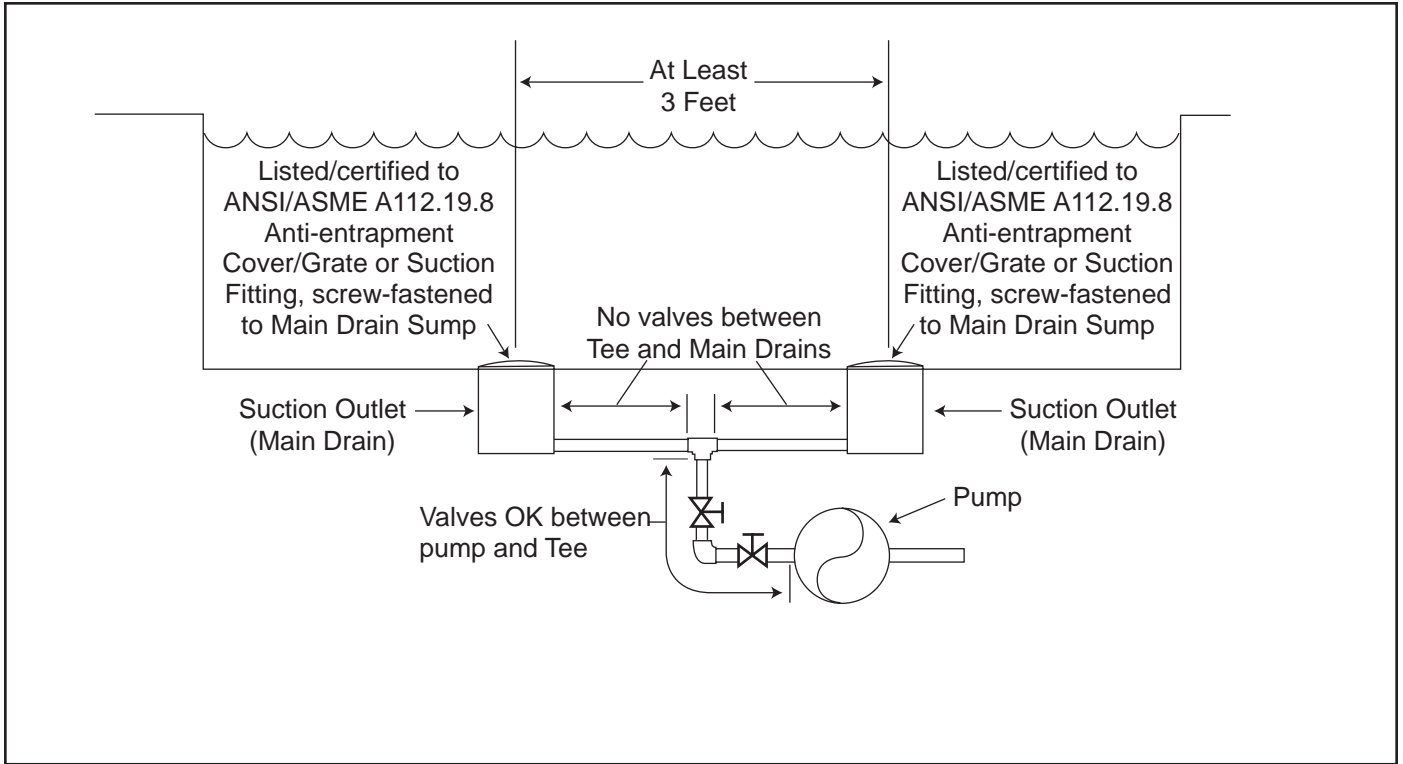

Figure 1. Number of Suction Outlets Per Pump
**Number of Suction Outlets Per Pump** - Provide at least two hydraulically balanced main drains, with covers, as suction outlets for each circulating pump suction line. The centers of the main drains (suction outlets) on any one suction line must be at least three feet apart, center to center. (see figure 1 on page 7)
The system **must** be built to include at least two suction outlets (drains) connected to the pump whenever the pump is running. However, if two main drains run into a single suction line, the single suction line may be equipped with a valve which will shut off both main drains from the pump. The system shall be constructed such that it shall not allow for separate or independent shutoff or isolation of each drain. (see figure 1 on page 7)